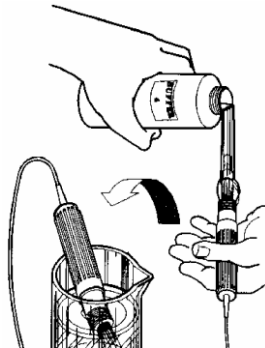

Fig. 34
- If these procedures fail to rejuvenate the probe, the problem is most likely a clogged liquid junction. Cleaning the liquid junction involves heating a diluted KCl (Potassium Chloride) solution to 60-80°C (139-176°F). Place probe tip in the heated KCl solution for approximately ten minutes (Fig. 34). Allow the probe to cool while immersed in the solution before re-testing. If these steps fail to improve the probe response, replace the probe.